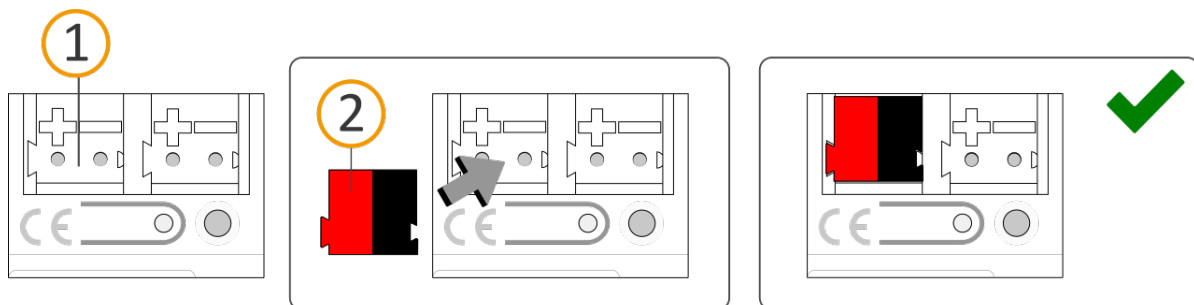

Figure 10: Connect the bus line
2. Connect the KNX/TP bus line (referred to below as the bus line) to the KNX connection of the device (see figure 10, item 1) by means of the supplied bus connection terminal (see figure 10, item 2). Polarity: left/red: "+", right/black "-".
- a. Attach the bus connection terminal (see figure 10, item 2).